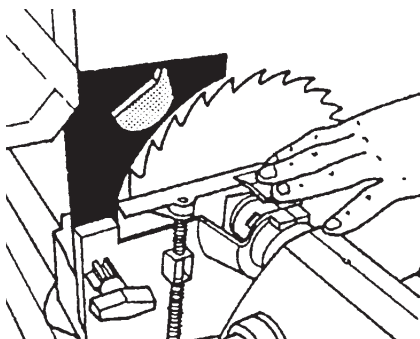

Figure 102
2. Make sure the Riving Knife is fully seated between the Guard and the Lock Plate, as in Figure 102.